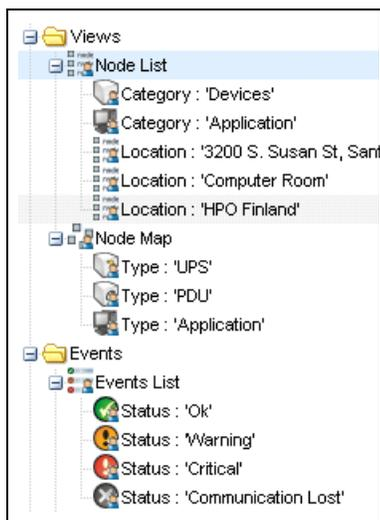

Figure 59. Views > Node List Example Hierarchy
1. Select a view in the **Views > Node List**, such as Category: “Devices” or Location “HPO Finland” (see Figure 59).
1. Select a view in the **Views > Node List**, such as “Location: Computer Room” (see Figure 59).